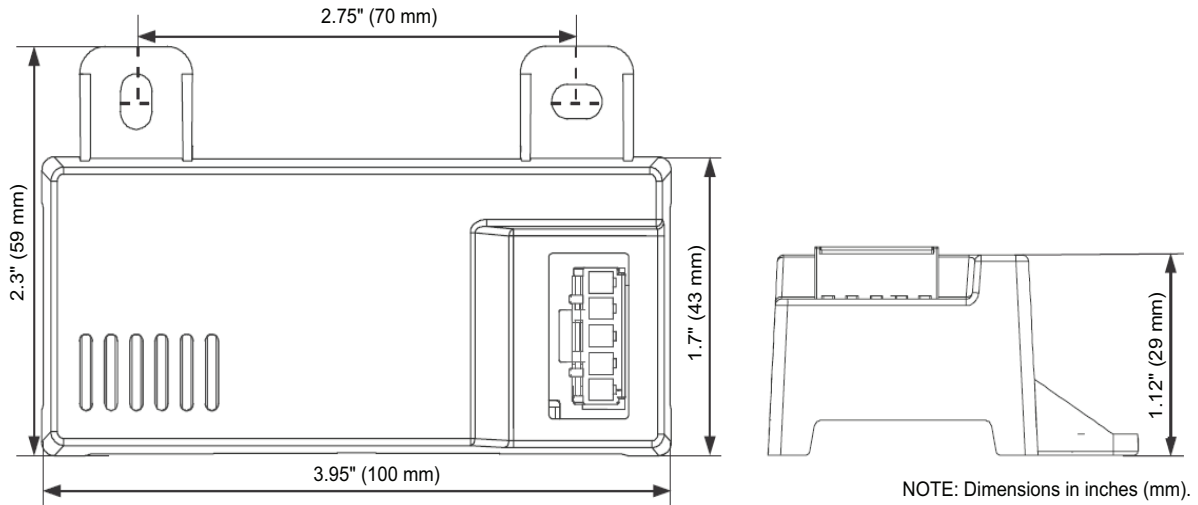
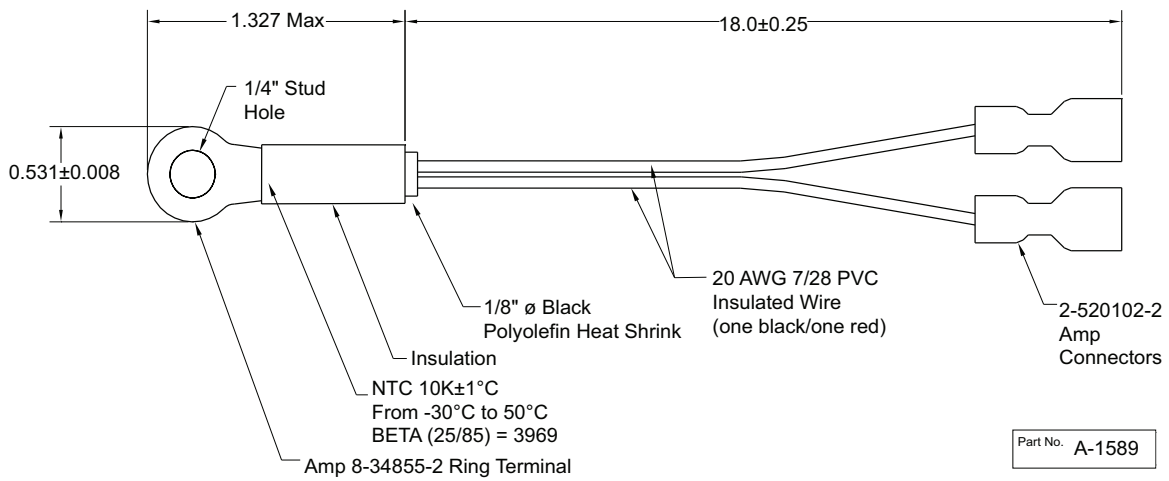
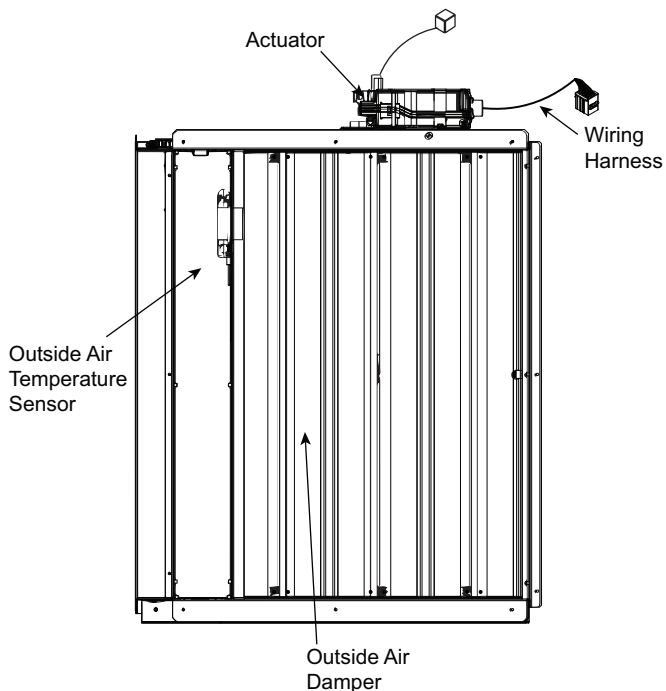

Fig. 76 – HH57LW001 Dimensional, Connection and Switching Information
Fig. 77 – HH79NZ039 Dry Bulb and Mixed Air Sensor Wiring
Fig. 78 – EconomizerONE Component Locations (CRECOMZR108A00 Shown)
When using the HH57LW001 enthalpy sensor (see Fig. 76) for outside air changeover, the existing HH79NZ039 dry bulb sensor (see Fig. 77) must be removed. The enthalpy sensor will be mounted in the same location as the dry bulb sensor (see Fig. 78). When the enthalpy sensor's OA (Outside Air) temperature, enthalpy, and dew point are below their respective setpoints, the outside air can be used for free cooling. When any of these are above the setpoint, free cooling will not be available. Enthalpy setpoints are configurable and create an enthalpy boundary according to the user's input. For additional details, see Fig. 79-80 and Table 30.
The optional enthalpy control sensor (P/N: HH57LW001) communicates with the POL224 economizer controller using the 5-wire harness, 48TC005213. The HH57LW001 sensor can be used as a single outside air enthalpy, a differential return enthalpy, or a differential return temperature sensor. Refer to the base unit control wiring diagrams found earlier in this book to wire the HH57LW001 enthalpy sensor for each option. Use Fig. 76 and Table 32 on page 59 to locate the wiring terminals for each enthalpy control sensor.
Economizers are shipped standard with an HH79NZ039 outside air dry bulb sensor (see Fig. 77). System default setting (high temp limit) is 63°F (17°C) and has a range of 48°F to 80°F (9°C to 27°C). Sensor is factory installed on economizer.
If installing the optional HH57LW001 enthalpy sensor, the HH79NZ039 dry bulb outside air sensor must first be removed. Wire sensor to harness 48TC005213 and the (5) wires from the harness to the EconomizerONE harness in the return air chamber. Harness 48TC005213 has a 5-pin plug that connects directly to the HH57LW001 enthalpy sensor. Refer to the base unit control wiring diagrams earlier in this book for wiring connections. Refer to Fig. 76 and Table 32.